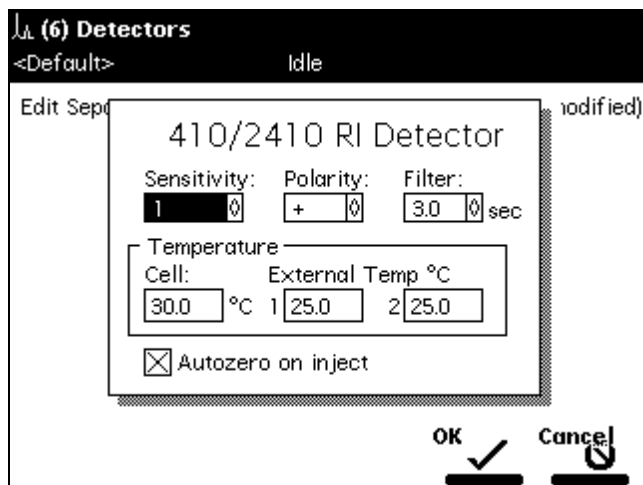

Figure 5-21 Waters 410/2410 RI Detector Screen
1. In the Detectors screen, press the **RI** screen key to display the 410/2410 detector screen (Figure 5-21).